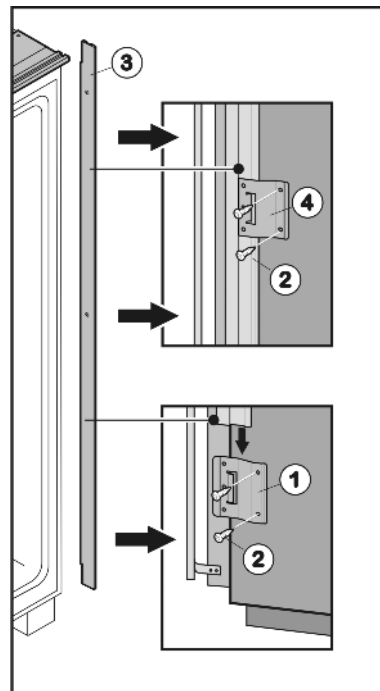
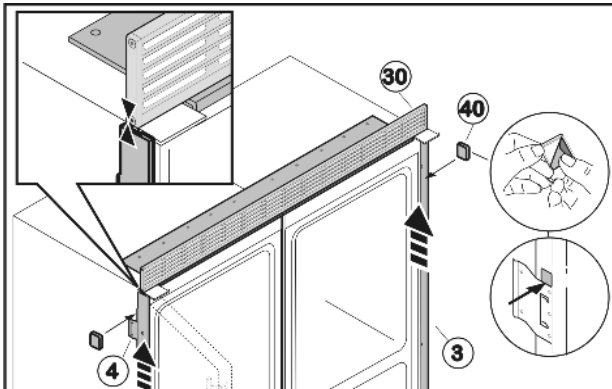

Fig. 41
Fig. 51
- ▶ Unscrew retaining plates Fig. 41 (1,4) and remove rail Fig. 41 (3).
- ▶ Fit retaining plate Fig. 41 (1) to the lower part of the hinge side by inserting two screws Fig. 41 (2) into the pre-cut holes.
- ▶ Slide rail Fig. 41 (3) into the retaining plate Fig. 41 (1) from above.
- ▶ Push second retaining plate Fig. 41 (4) onto the rail from above and screw onto the center of the side wall.
- ▶ Push third retaining plate Fig. 41 (4) onto the rail from above and screw onto the top part of the side wall.
- ▶ Remove adhesive tape from the side installation strip Fig. 51 (3).
- ▶ Push installation strip Fig. 51 (3) upwards until it is touching the ventilation grille Fig. 51 (30).
- ▶ Glue the adhesive plates Fig. 51 (40) above the retaining plate Fig. 41 (1) and the retaining plates Fig. 51 (4) respectively to the installation strip Fig. 51 (3) such that it cannot slide downwards.